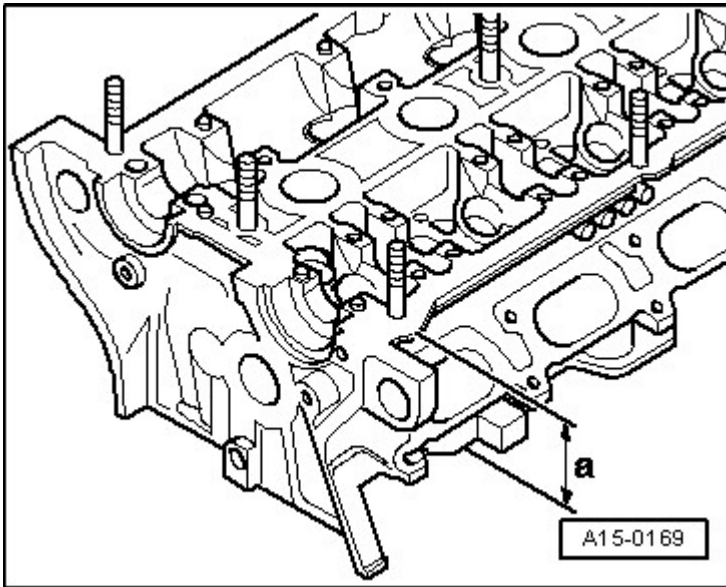

Fig. 8: Identifying Cylinder Head Refacing Dimension
- Reworking dimension **Fig. 8**